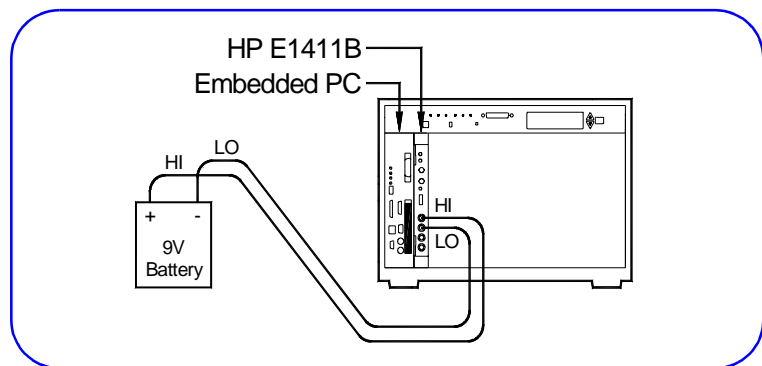

Figure 27. Example: HP E1411B Connections
- 1 Turn mainframe power OFF and connect the battery to the HI and LO terminals of the HP E1411B as shown in Figure 27. Then, turn mainframe power ON.